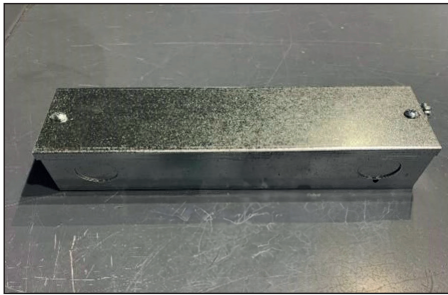
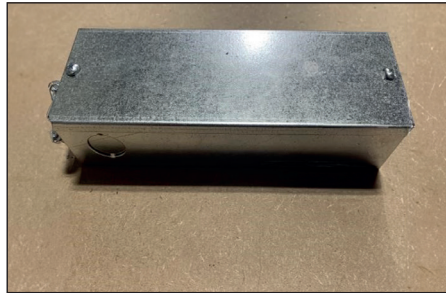

Fig. 6 - Remote/Semi-remote Driver
Fig. 10
- Identify Remote/Semi-Remote driver and Z Brackets. [Fig. 6]
- Secure Remote/Semi-Remote driver on flat surface via provided Z Brackets (Typ. 2) [Fig. 6]. Depending on field condition, use appropriate screws to secure Z Brackets on driver box and flat surface. [Fig. 10]